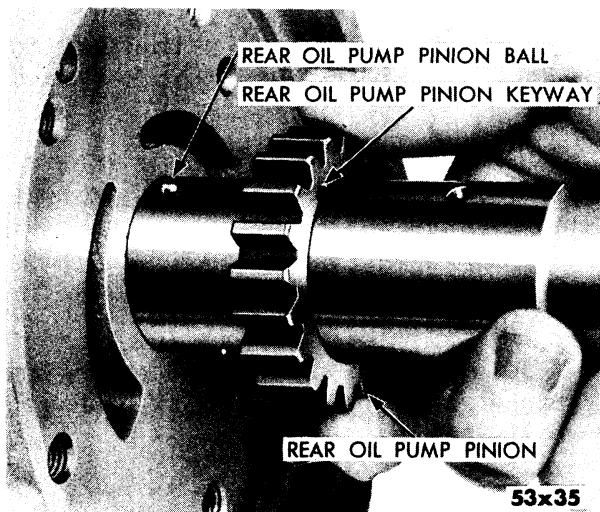

Fig. 64—Removal and Installation of Rear Oil Pump Pinion
- (9) Remove rear oil pump pinion from output shaft, as shown in Figure 64. Mark front side with Prussian blue.